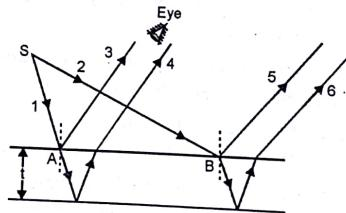

Fig. 1.6.1
- Consider a thin film and a narrow source of light  $S$  as shown in Fig. 1.6.1. The ray 1 produces interference fringes because rays 3 and 4 reach the eye. The ray 2 is incident on the film at some different angle and is reflected along 5 and 6. The rays 5 and 6 do not reach the eye.